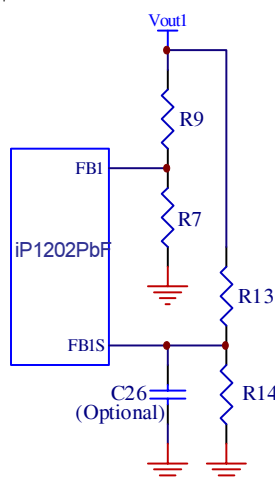

Fig. 17: Typical scheme for output voltage setting
Both outputs of the iP1202PbF will shut down if either one of the outputs experiences a voltage in the range of 115% of V_{OUT} . The overvoltage sense pins FB1s and FB2s are connected to the output through voltage dividers, R_{13} and R_{14} (Fig. 17), and the trip setpoints are programmed according to equation (1). Separate overvoltage sense pins FB1s and FB2s are provided to protect the power supply output if for some reason the main feedback loop is lost (for instance, loss of feedback resistors). An optional 100pF capacitor (C26) is used for delay and filtering purposes. If this redundancy is not required and if Type II control loop compensation scheme is utilized, FB1s and FB2s pins can be connected to FB1 and FB2 pins respectively.
When selecting output capacitors, it is important to consider the overshoot performance of the power supply. If the amount of capacitance is not adequate, then, when unloading the output, the magnitude of the overshoot due to stored inductor energy, and depending on the speed of the response of the control loop, can exceed the overvoltage trip threshold of the iP1202PbF and can cause undesirable shutdown of the output. The magnitude of the overshoot should be kept below 1.125V_{OUT}. To prevent the overshoot from tripping the output a delay can be added by installing capacitor C26 as shown in Fig.17.